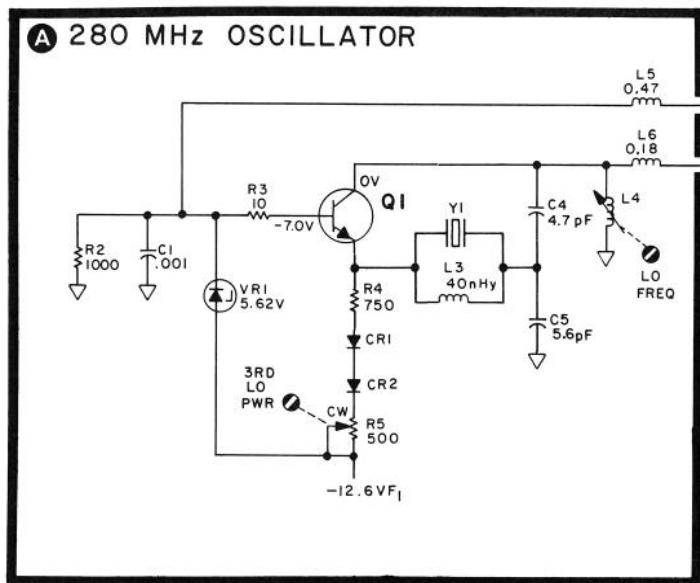

FIGURE 7-8. P/O A9 THIRD CONVERTER AND A10 SECOND IF ASSEMBLIES, SCHEMATIC DIAGRAM (2118A & BELOW)
2118A & Below      Replace function block (A) with function block (A) shown in Figure 7-8 (2118A & BELOW) included in this Manual Backdating supplement.